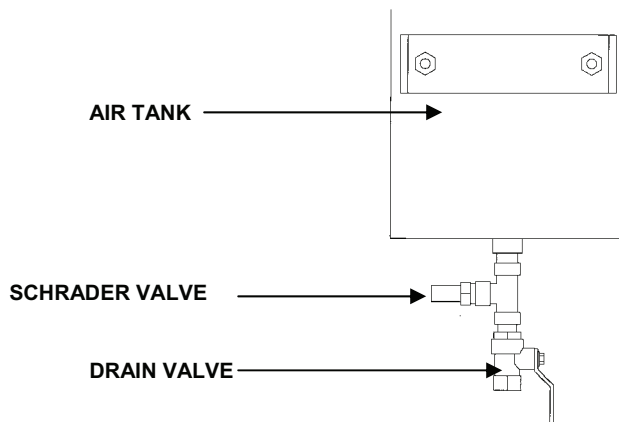

Figure 1. Air Tank (Rear View).
1. Drain the air tank by opening the drain valve completely. See Figure 1.